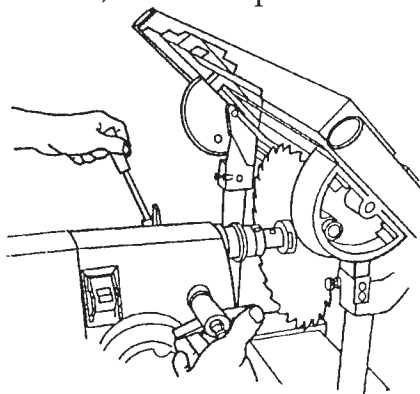

Figure B-68
33. Loosen the tilt lock and tilt the worktable to the right until it makes contact with the two 45° stop bolts (158).
35. Loosen the quill feed (shown in Figure B-68) and extend the quill so the saw blade is centered beneath the slot in the table insert. When it is centered, lock the quill feed.